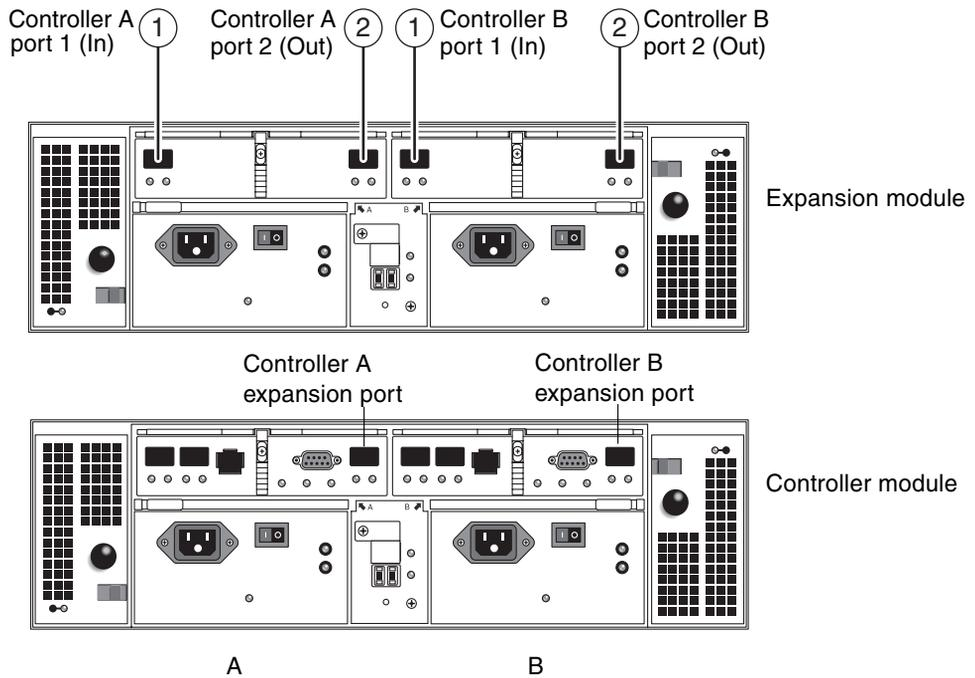

FIGURE 2-20 Expansion and Controller Module Ports
This section describes how to cable a controller module to expansion modules for several different configurations. The controller module uses Controller A and Controller B expansion ports to connect to FC-AL ports at the back of an expansion module (FIGURE 2-20).
1. Locate the Controller A side and B side expansion ports at the back of the controller module (FIGURE 2-20).
2. Locate the Controller A side and B side FC-AL ports 1 and 2 at the back of the expansion module (FIGURE 2-20).
2. Locate the Controller A side and B side FC-AL ports 1 and 2 at the back of each expansion module (FIGURE 2-20).